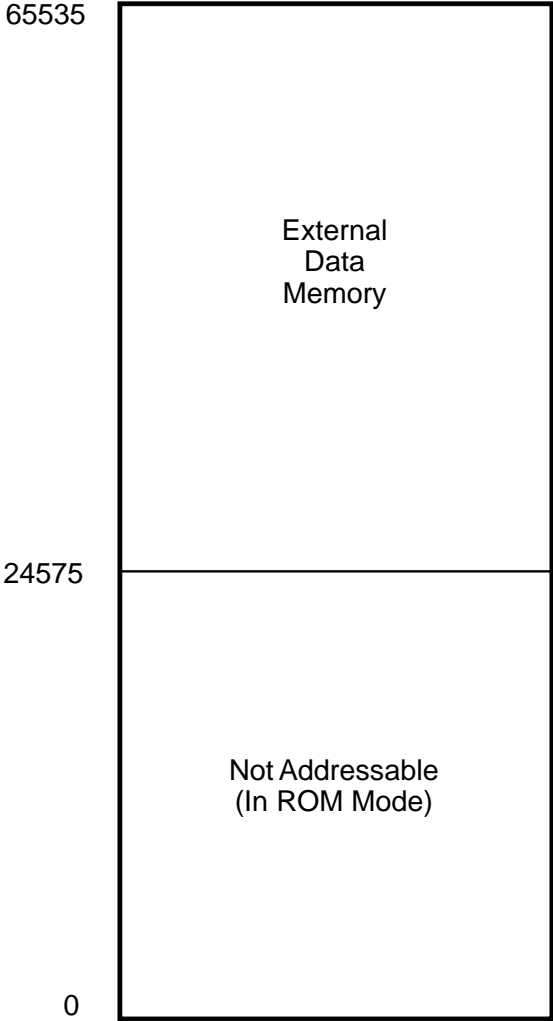

Figure 18. Data Memory Map
**Data Memory (/DM).** In ROM mode, the Z8 can address up to 40 KB of external data memory beginning at location 24576 (Figure 18). In ROMless mode, the Z8 can address the full 64 KB of external data memory beginning at location 12. External data memory can be included with, or separated from, the external program memory space. /DM, an optional I/O function that can be programmed to appear on Port 34, is used to distinguish between data and program memory space (Table 5). The state of the /DM signal is controlled by the type of instruction being executed. An LDC opcode references PROGRAM (/DM inactive)